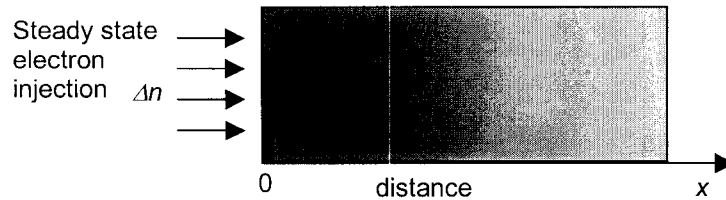

Figure 3.1: p-type semiconductor with steady state electron injection at $x = 0$ with Δn the excess electron concentration injected.
- a) A steady state flow of electrons is injected into one face, at $x = 0$, of a p-type semiconductor slab as illustrated in Figure 3.1. Sketch the excess electron density variation in the semiconductor as a function of x when: